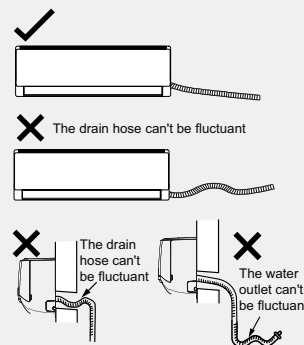

Fig.26
- Slant the drain hose slightly downwards. The drain hose cant be curved, raised and fluctuant, etc.(As shown in Fig.26)